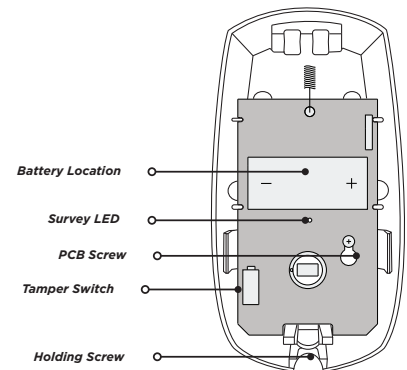

Figure 2: 1122INT Housing and PCB
2. Observing polarity, place the battery in the holder. Press it into place. See Figure 2 for the battery location.
2. Press the tamper switch to send data to the receiver and determine if communication is confirmed or faulty. See Figure 2 for tamper switch and LED locations.
2. Remove the old battery and dispose of it properly. See Figure 2 for battery location.